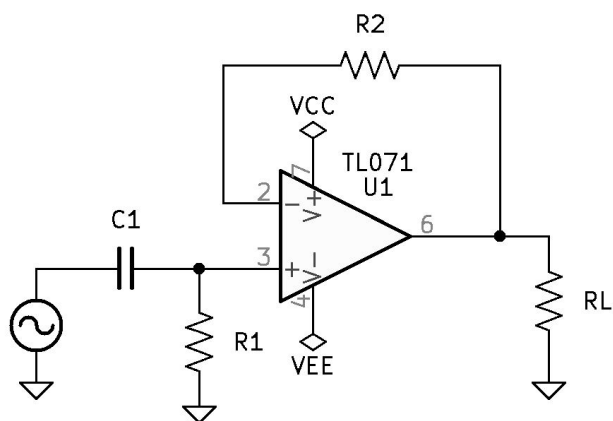

Figure 8.4: High-Pass First Order Active Filtering Circuit.
1. See Figure 8.4 *High-Pass First-Order Active Filtering Circuit* on page 79.